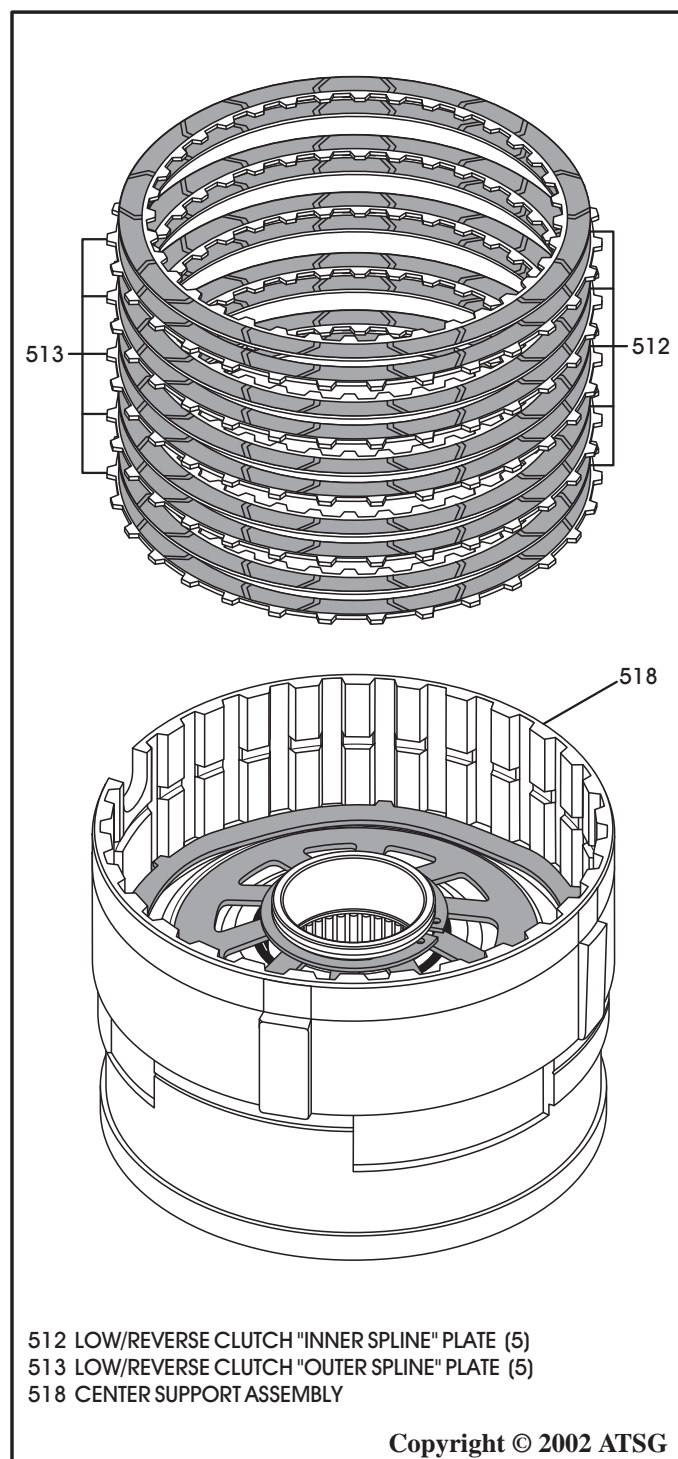

Figure 136
11. Install low/reverse clutch "single sided" plates beginning with an outside spline plate first and alternating with inside spline plates until you have installed 5 of each (See Figure 136).
Note: *Lined side must be installed facing up, as shown in Figure 136. Clutch plate amounts may vary by model.*